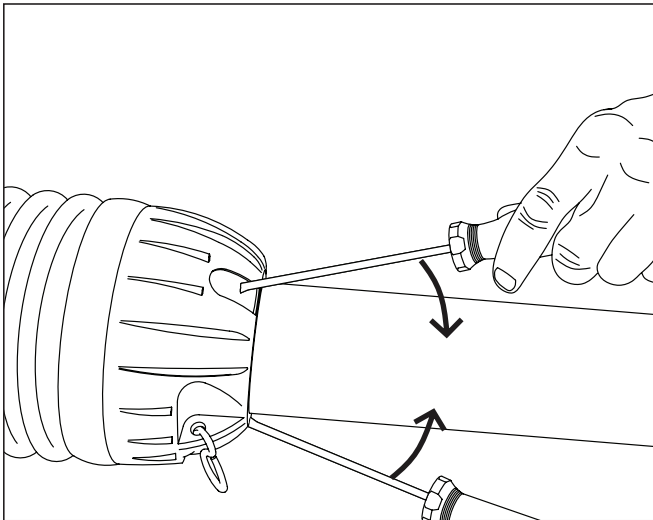
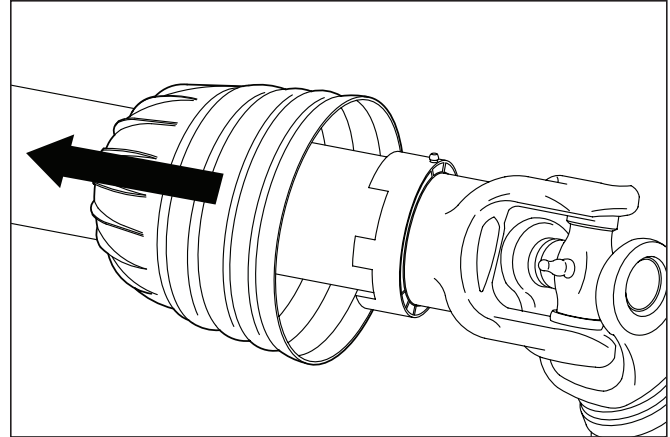

Figure 71 Releasing the locks
Figure 72 Dismantling the rotating guard
## DISMANTLING AND REASSEMBLY OF DRIVELINE ROTATING GUARDS FIGURE 71 AND FIGURE 72
2. Slide each cone as shown in Figure 72.